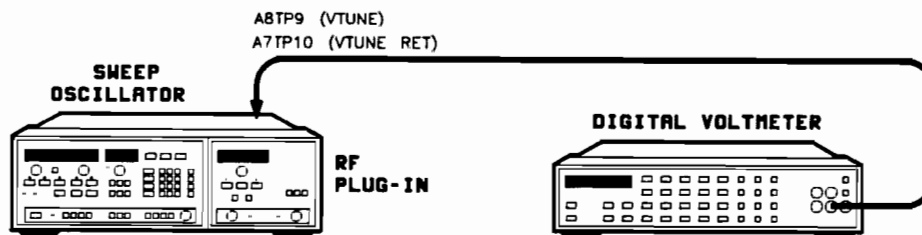

Figure 5-5. YO and SYTM DAC Calibration Test Setup
1. Connect the equipment as shown in Figure 5-5 with DVM HI connected to A6TP9 (VTUNE) and DVM LO connected to A6TP10 (VTUNE RET). Refer to Figure 5-6 for test point and adjustment locations. Allow the RF plug-in to warm up for 1 hour.